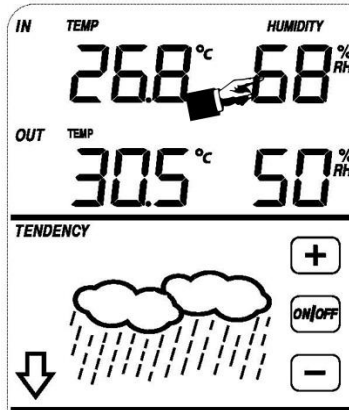

Figure 12
1. Touch the indoor humidity once, as shown in Figure 12. The indoor humidity will begin flashing and the **+** button and **-** button will be flashing (in the tendency section of the display).